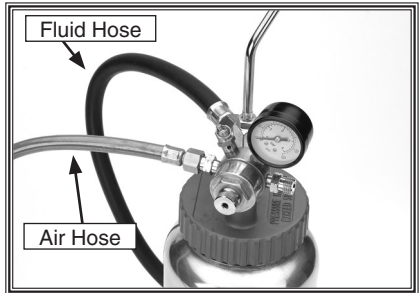

Figure 5. Air hose installed.
4. Attach the $\frac{1}{4}$ " air hose to the $\frac{1}{4}$ " air outlet on the cap (see **Figure 5**).